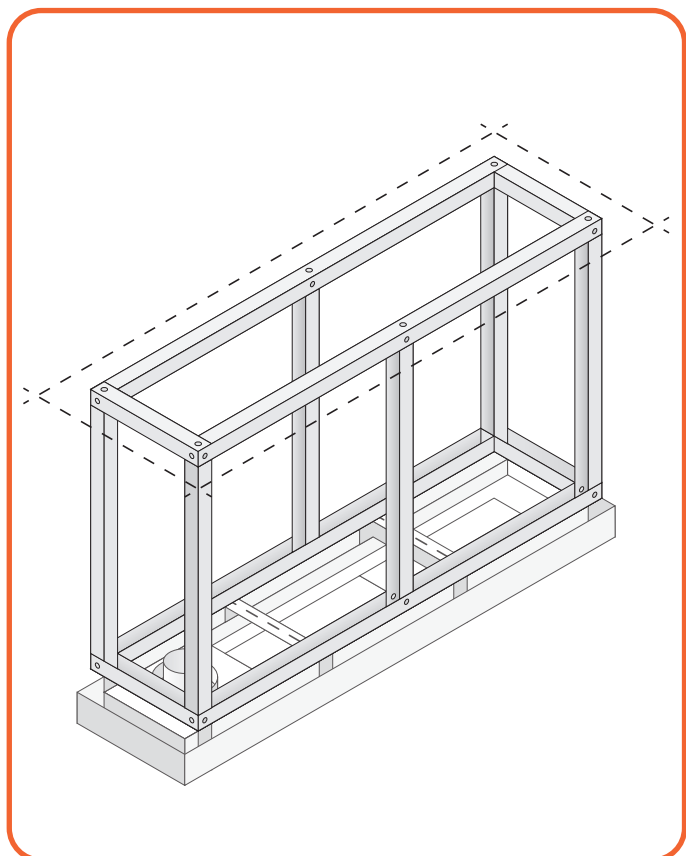
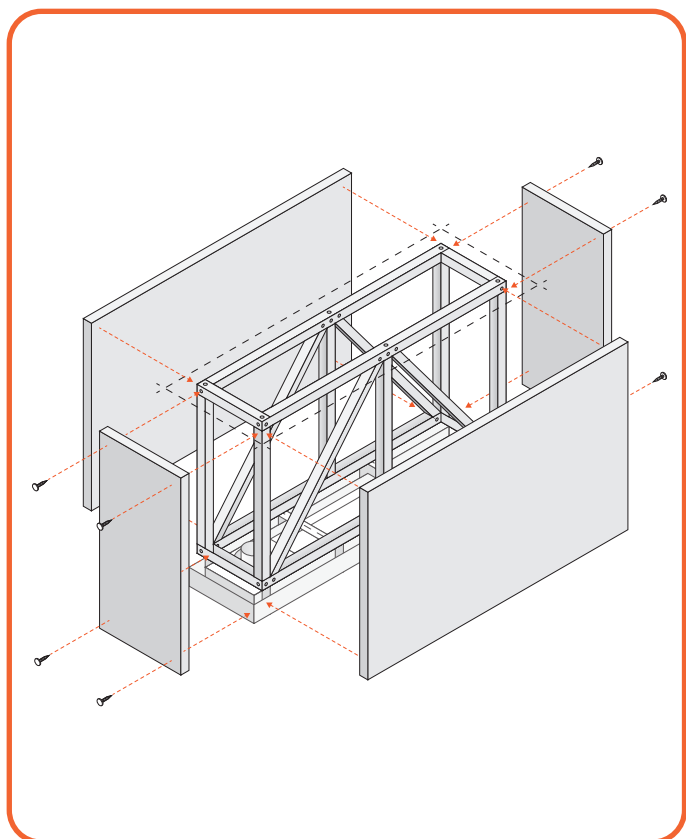

Figure 6.12 | Complete base of the frame
Figure 6.14 | Construction of fireproof material
- First of all, create a frame for the fireplace itself and the same frame for the ceiling (Figure 6.12 to Figure 6.14).